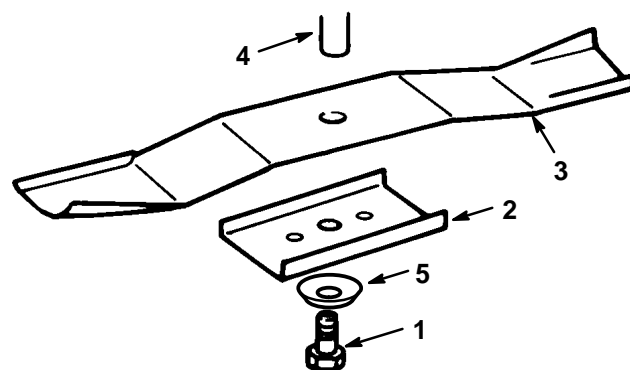

Figure 33
3. Remove the bolt (5/8" wrench), curved washer, retainer and blade (Fig. 33). A block of wood may be wedged between the blade and the mower to lock the blade when you are removing the bolt.
1. Install the blade, blade retainer, curved washer (cupped side toward blade), and the blade bolt (Fig. 33).